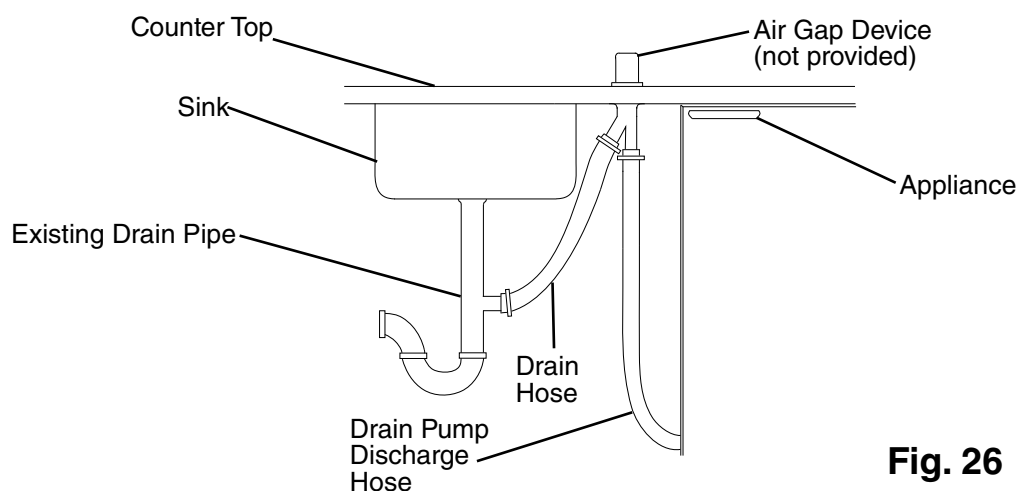

Fig. 26
c) Existing Drain Pipe Installation: When connecting to a suitable existing drain pipe (sink), the drain line must be installed in accordance with applicable national, state, and local codes and regulations. **IMPORTANT! Confirm with local and state plumbing codes before connecting to an existing drain pipe. An air gap device (not included) may be required. See Fig. 26. NOTICE! Be sure there is sufficient extra tubing for the appliance to be pulled out for service.** Do not allow traps or kinks in the hose that will restrict water flow. The maximum discharge hose length is 20 feet (6 m). The maximum discharge hose lift height is 10 feet (3.05 m). Cut excess hose as needed.